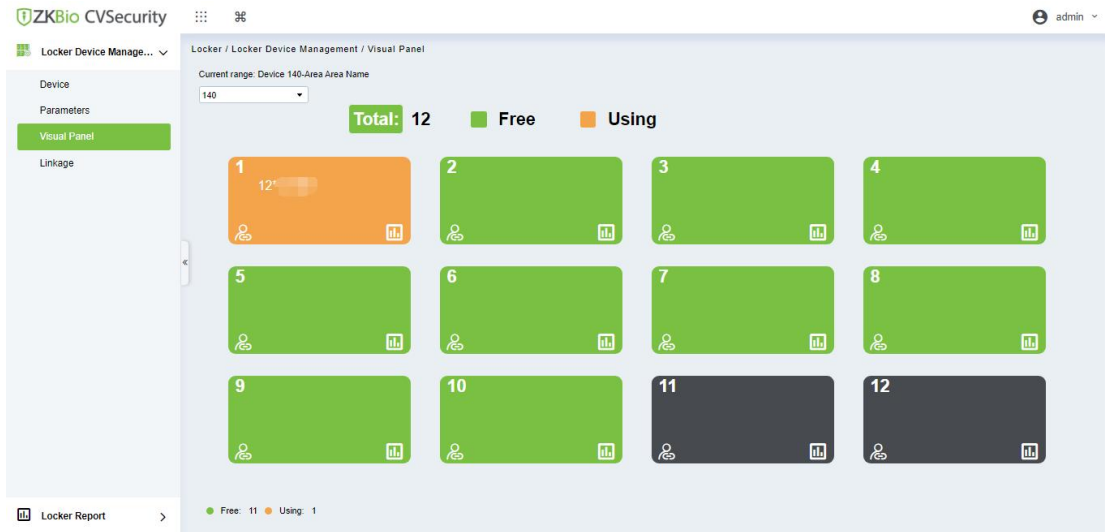

Figure 1-9 Visual Panel Interface
Step 2: Select a panel, click , and the interface of View the last 5 records will pop up .As shown in the figure 1-9.